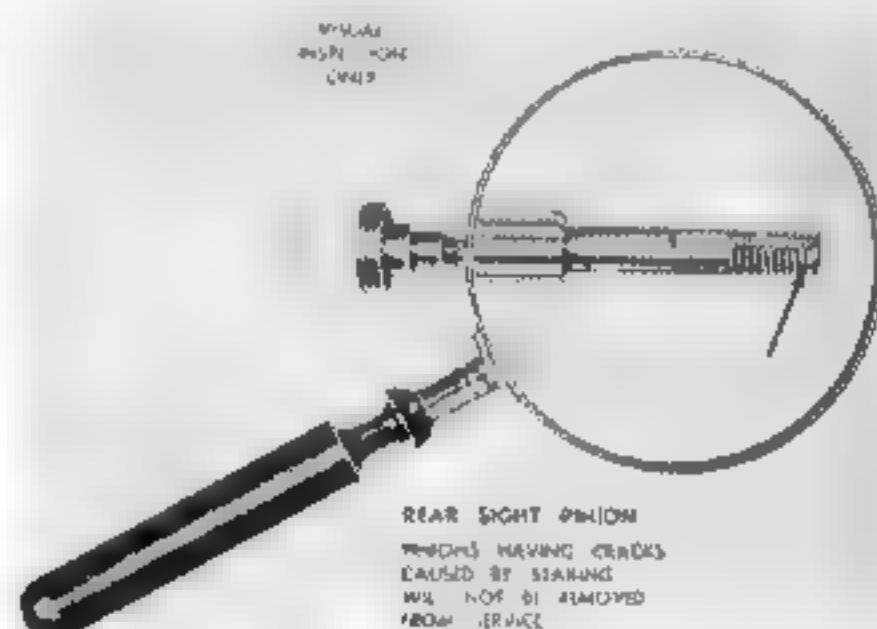

Fig. 124. Rear sight pinion - early manufacture.
50. Rear sight pinion (early manufacture). Inspect the pinions visually. Pinions having cracks caused by staking need not be removed, provided they do not interfere with functioning (Fig. 124)